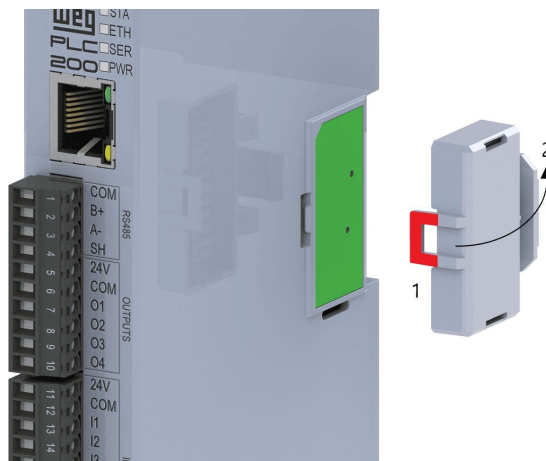

Figure 3.6: Closure fitting
Connecting the closure of the expansion communication busbar is essential for the product proper operation. To install the closure correctly, first fit the part highlighted in red (1) to Figure 3.6 on page 3-4; then, with a slight rotation movement, fit part (2), which is close to the rail or panel.